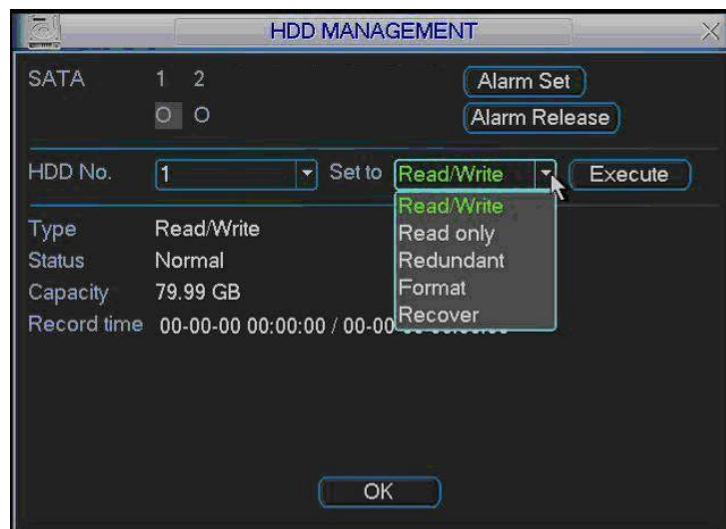

Figure 4-13
In the main menu, from Advanced to HDD management, you can set one or more disk(s) as redundant. You can select from the dropdown list. See Figure 4-13.
- Set redundant disk(s) as read-only disk or read-write disk (Main menu->Advanced->HDD management). See Figure 4-13. System needs to reboot to get setup activated. Now you can search or playback file in redundant disk.